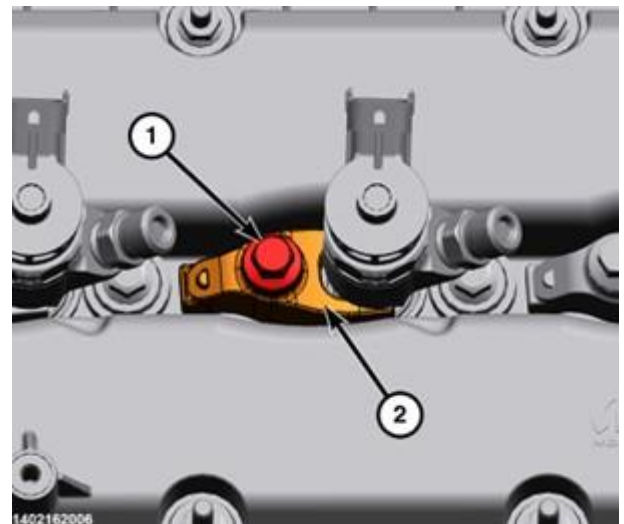

Figure 144– Fuel Injector Bolt and Clamp
- 89. Install the fuel injector clamp (2) and tighten the bolt (1) to 33 N-m (24 ft. lbs.) (Figure 144).